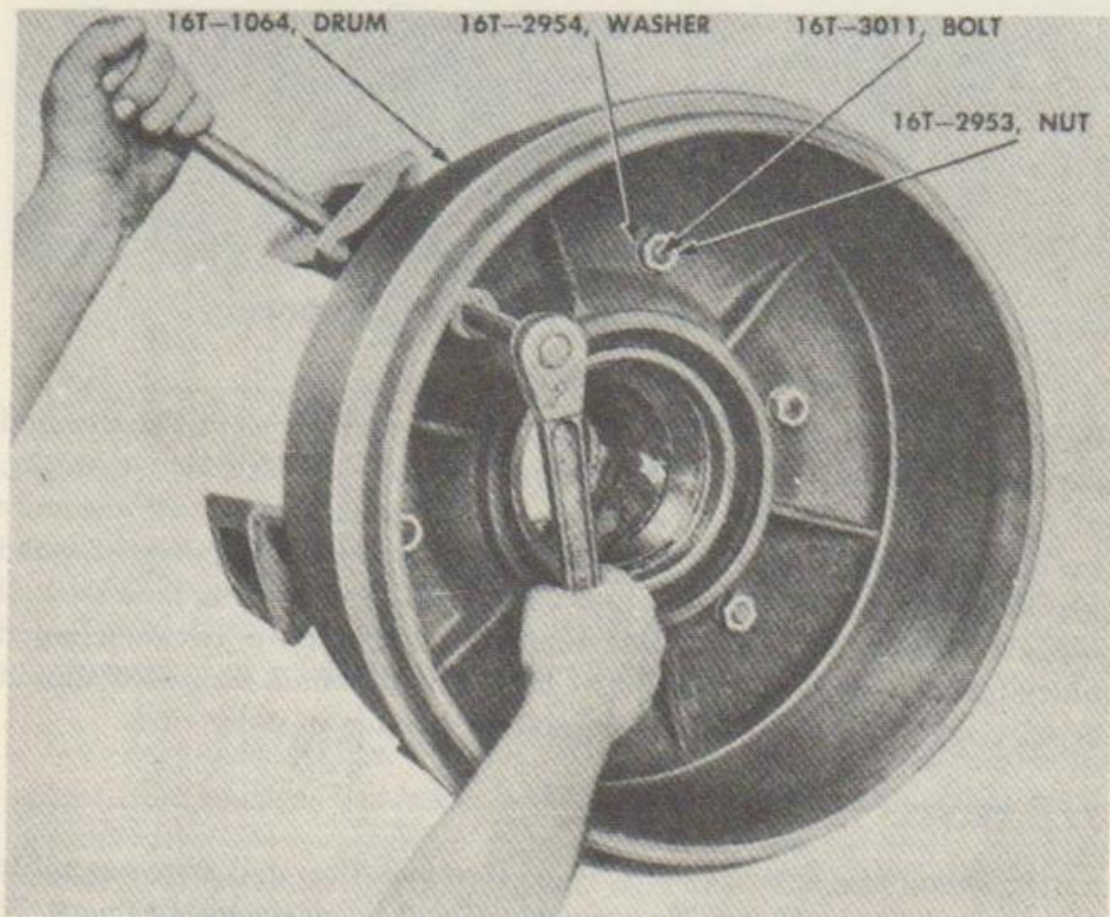

FIGURE 57. REMOVING DRUM
a. Removal (figs. 57 and 59). Remove tire and rim assembly from wheel (para. 78 *a.*). Remove wheel and drum assembly (para. 73 or 76). With a socket attached to an extension handle, place socket on